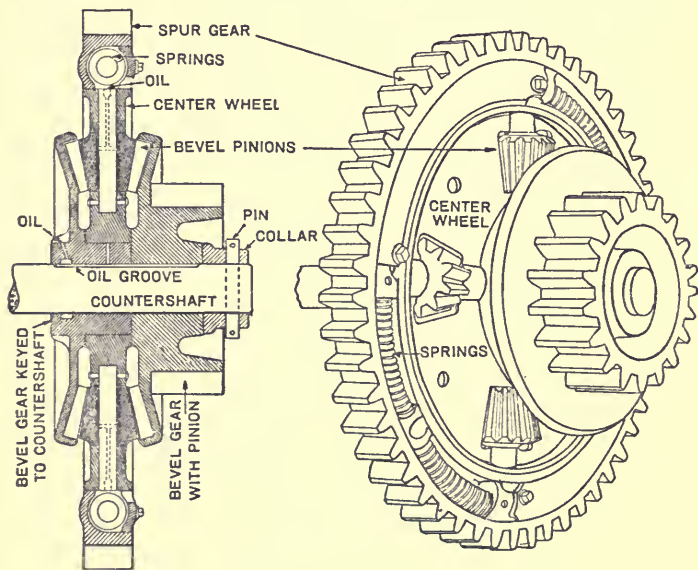

FIG. 40. THE DIFFERENTIAL GEAR, SHOWING SPRINGS.
*Oiling the Differential.* There are several moving parts within the differential gear which should be oiled occasionally. The bevel-pinions revolve about their shafts. An oil-hole is drilled through the center of each of these shafts to provide for oiling them, as shown in Fig. 40. The center wheel turns on the hub of the left-hand or inside bevel-gear, when the differential-gear works, and accordingly it should be oiled occasionally through the hole provided for this purpose in the bevel-gear hub, as shown in Fig. 40, which applies to all except the 110 horse-power engine. The oil passes into a chamber, then along the groove and out through the radial holes to the journal. The oil also works farther along the groove and oils right-hand countershaft pinion where it turns on the shaft. On the 110 horse-power engine, there is no oil groove in the shaft. The oil holes in the hub of the inside bevel gear carry the oil direct to the bearing of the center wheel, and the right-hand countershaft pinion is provided with holes in its hub for oiling the shaft. The hub of the left-hand traction wheel turns upon the axle in turning corners, and therefore should be oiled occasionally. This is done by removing the cap-screws in the hub of the traction wheel.